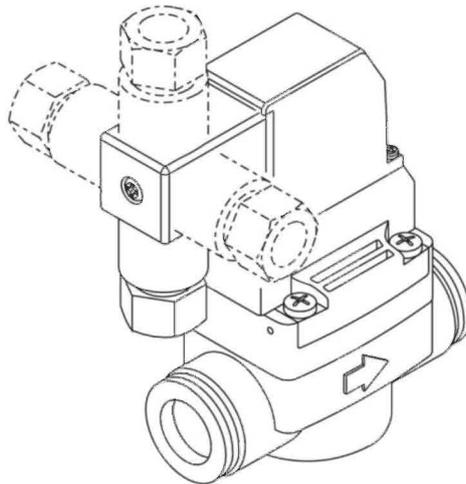

Figure 3 Attaching direction of the DIN terminal box
- Applicable outer diameter dimension for cable ⑦ is VCTF (two or three cores) ($\phi 3.5$ to 7) defined in JIS C3306.
- If you use crimping sleeve ⑩ at the tip of the stranded wire, use H0.5/6 (0.3~0.5 mm²) or H0.75/6 (0.75 mm²) made by Weidmueller Japan Co.,Ltd. or equivalent. Please provide the crimping sleeve.
- Pass Cable Gland ④, Washer ⑤, and Rubber Packing ⑥ through Cable ⑦. Insert the Cable into Cover ②.
Set the wire-connected Gland ③ into Cover ② (insert the gland until you hear a snap sound). You can set the gland in four directions (refer to figure 3). Insert Rubber Packing ⑥ and Washer ⑤ in that order into the cable entrance of Cover ②. Tighten Cable Gland ④ onto Cover ② firmly.